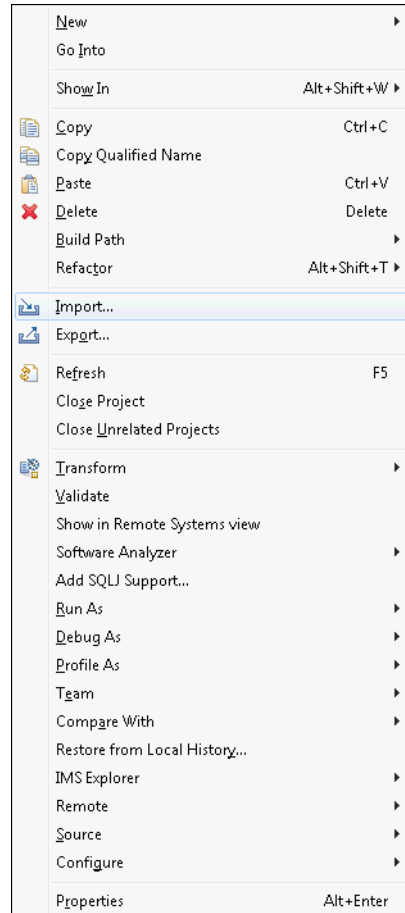

Figure 8-19 Options for an IMS Explorer Project
1. Right-click the Explorer Project (in this case, the LGI Application), and select **Import** (Figure 8-19).